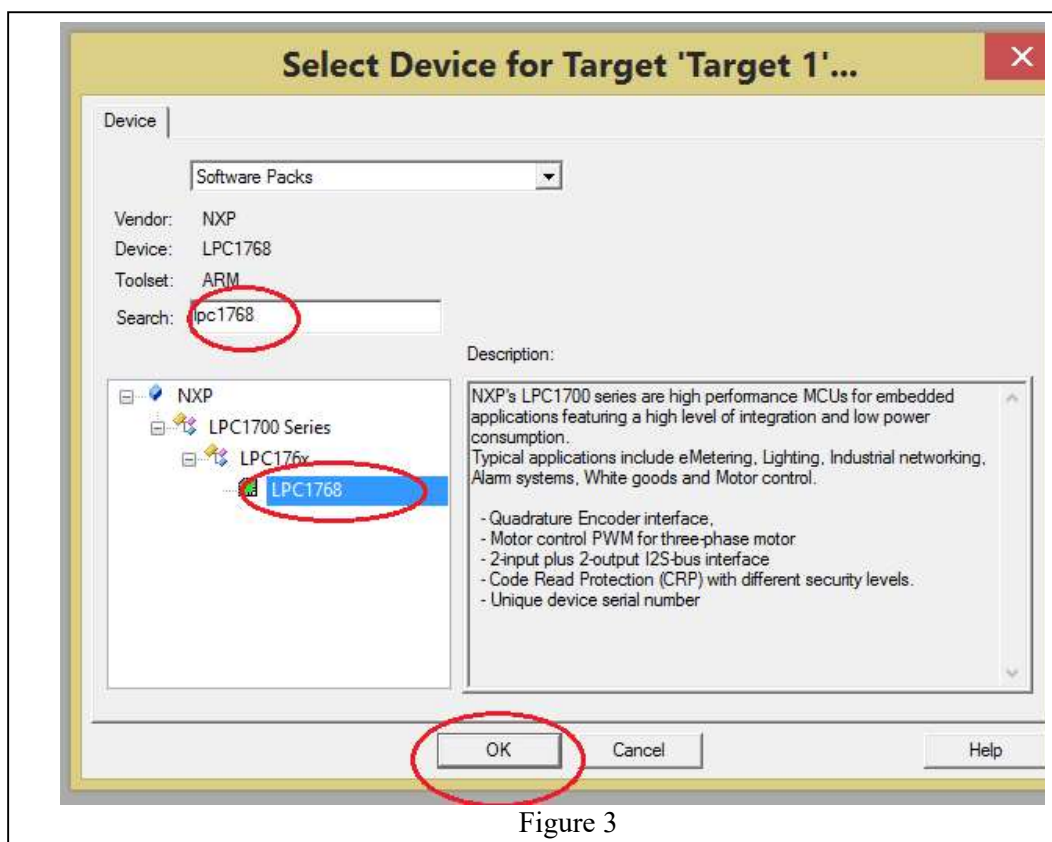

Figure 3
3. Type "LPC1768" as shown in the Figure 3 below and select the device and press okay.